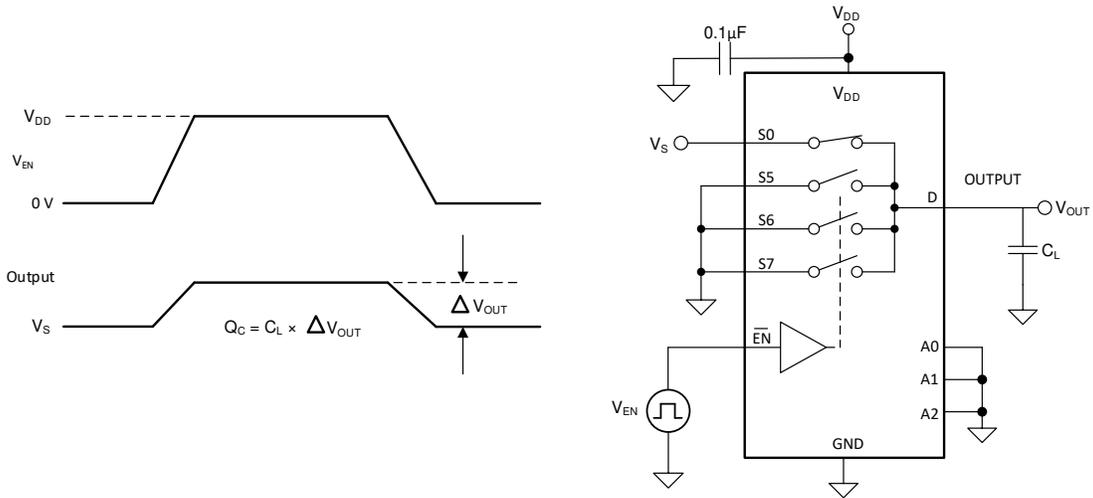

Figure 7-7. Charge-Injection Measurement Setup
The TMUX1308-Q1 and TMUX1309-Q1 device have a transmission-gate topology. Any mismatch in capacitance between the NMOS and PMOS transistors results in a charge injected into the drain or source during the falling or rising edge of the gate signal. The amount of charge injected into the source or drain of the device is known as charge injection, and is denoted by the symbol Q_C . Figure 7-7 shows the setup used to measure charge injection from source (Sx) to drain (D).